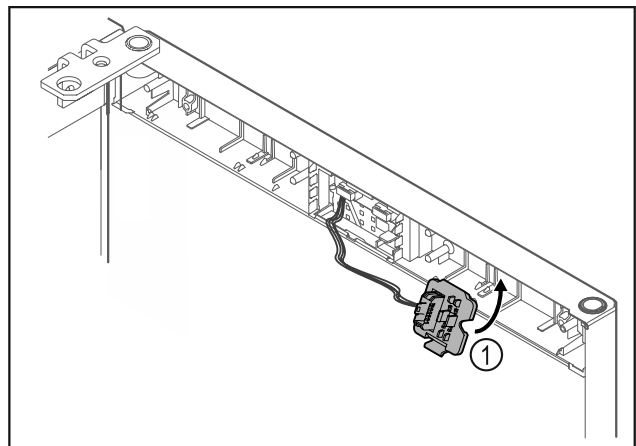

Fig. 17
- Snap in the plug holder Fig. 17 (1) on the opposite side.